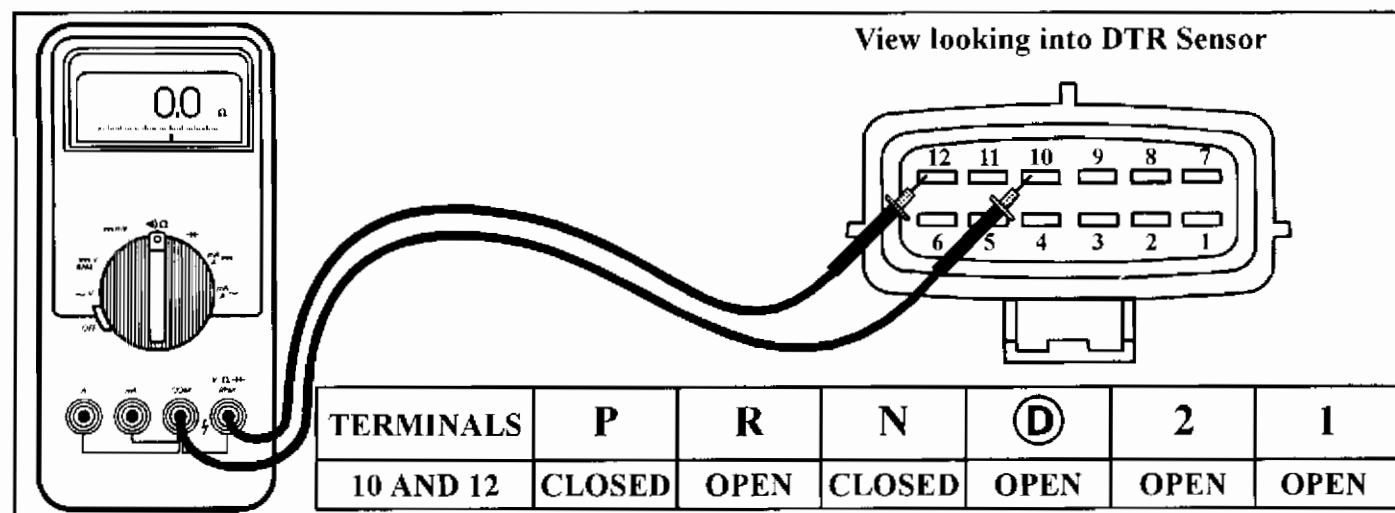

Figure 9
- (6) Testing the neutral start circuit is done across pins 10 and 12 of the DTR sensor, and must be checked in each selector position to determine switch integrity. Refer to Figure 9.